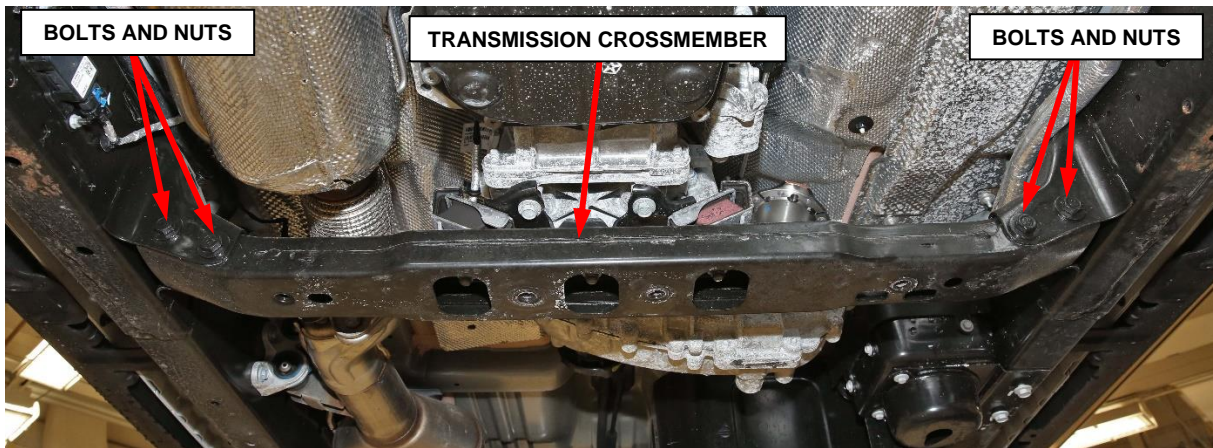

Figure 16 – Transmission Crossmember
19. Remove the crossmember bolts and nuts then remove the crossmember (Figure 16).